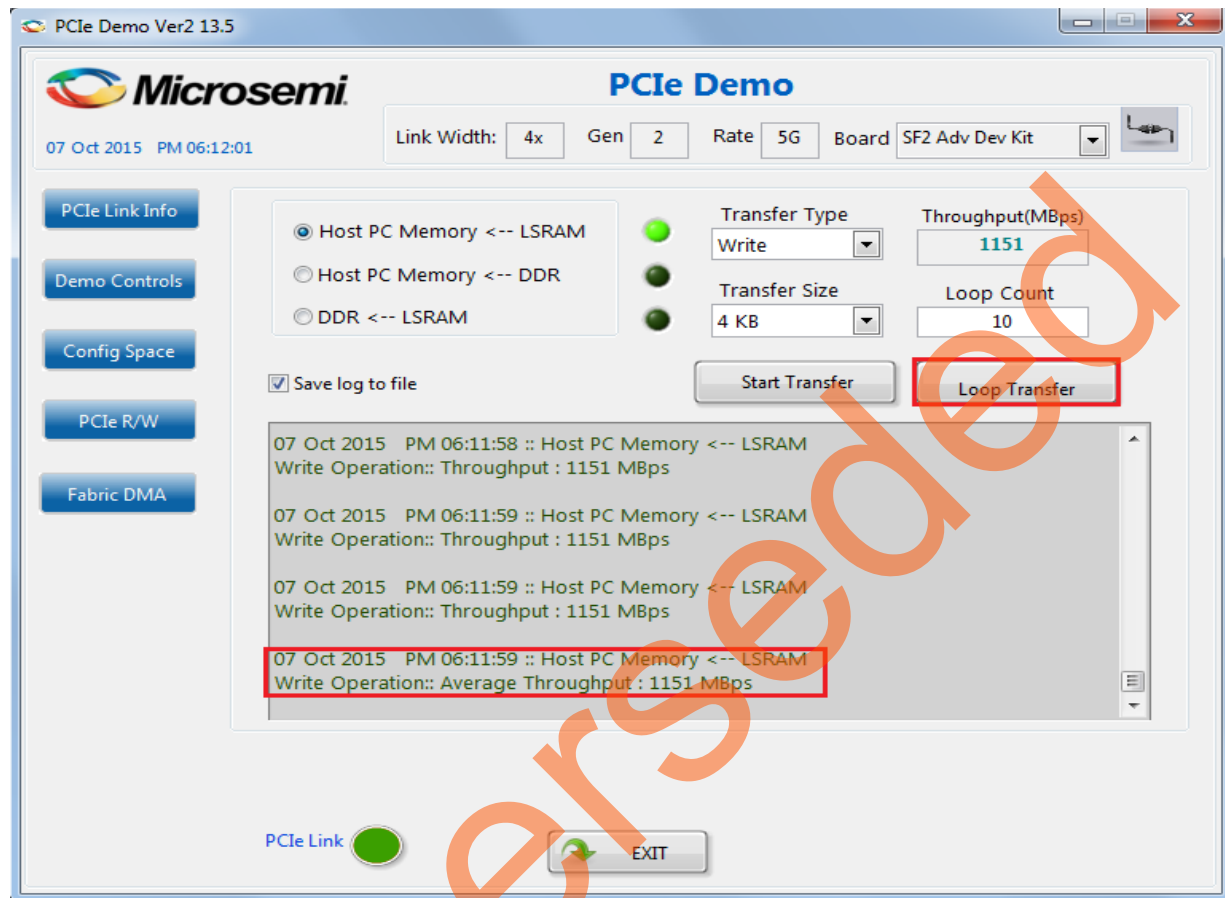

Figure 29 • DMA between Host PC Memory and LSRAM - Loop Transfer
19. Enter 10 in the **Loop Count** field and click **Loop Transfer** to perform 10 repeated DMA transactions. After completion of data transfer, the throughputs are displayed as shown in Figure 29.